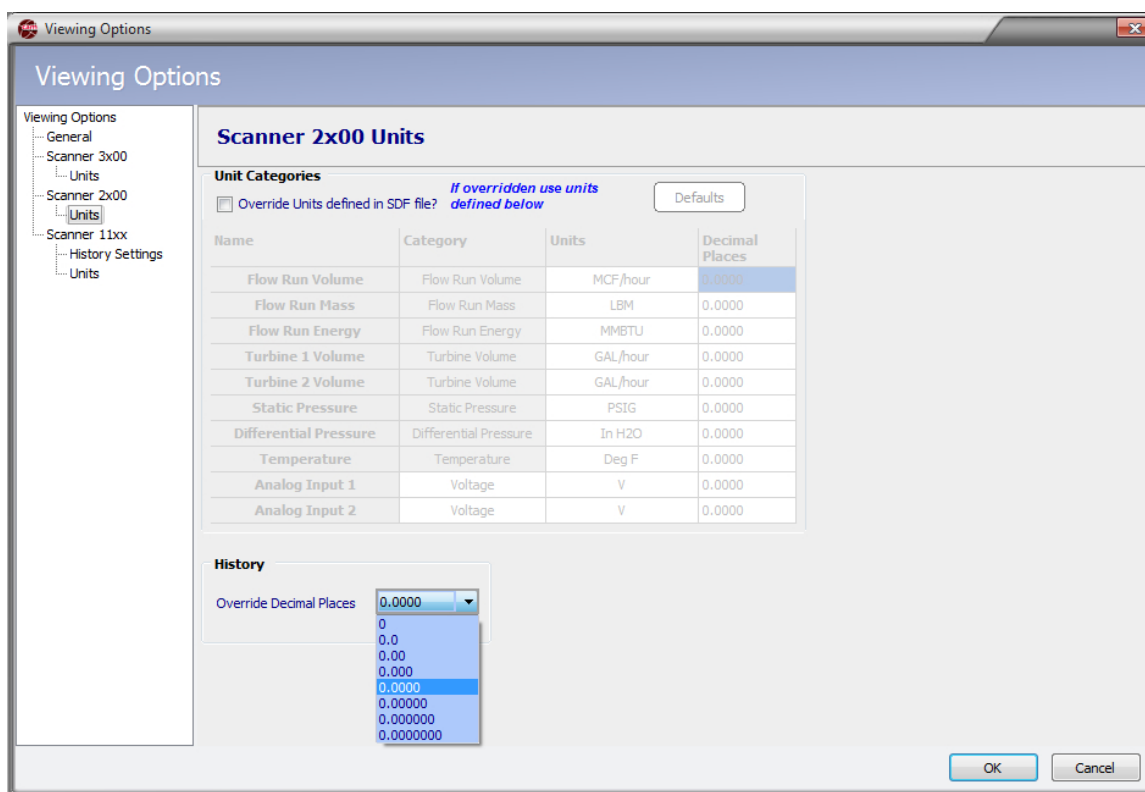

Figure A.3—Scanner 2x00 decimal override selection
- Click in the *Override Decimal Places* dropdown menu (Figure A.3) and select the number of decimal places to display. Up to seven decimal places are available.